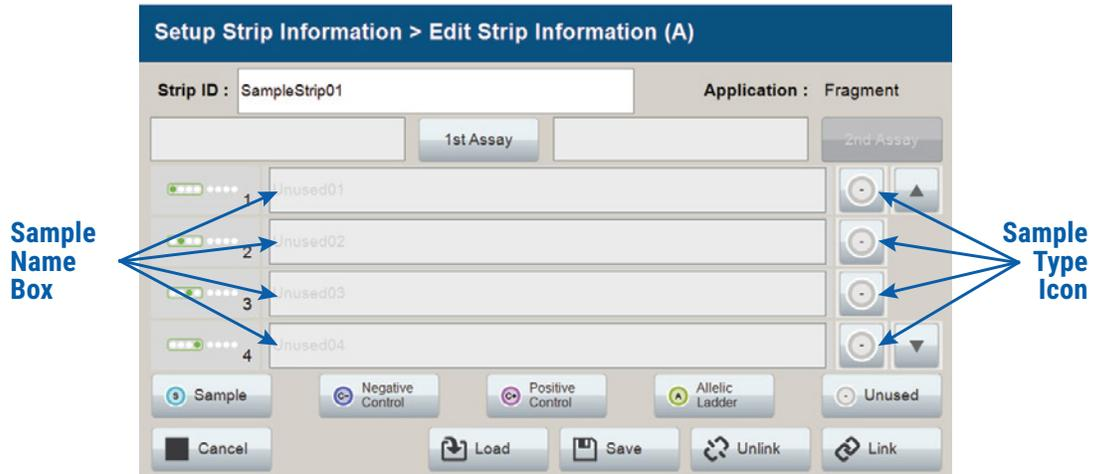
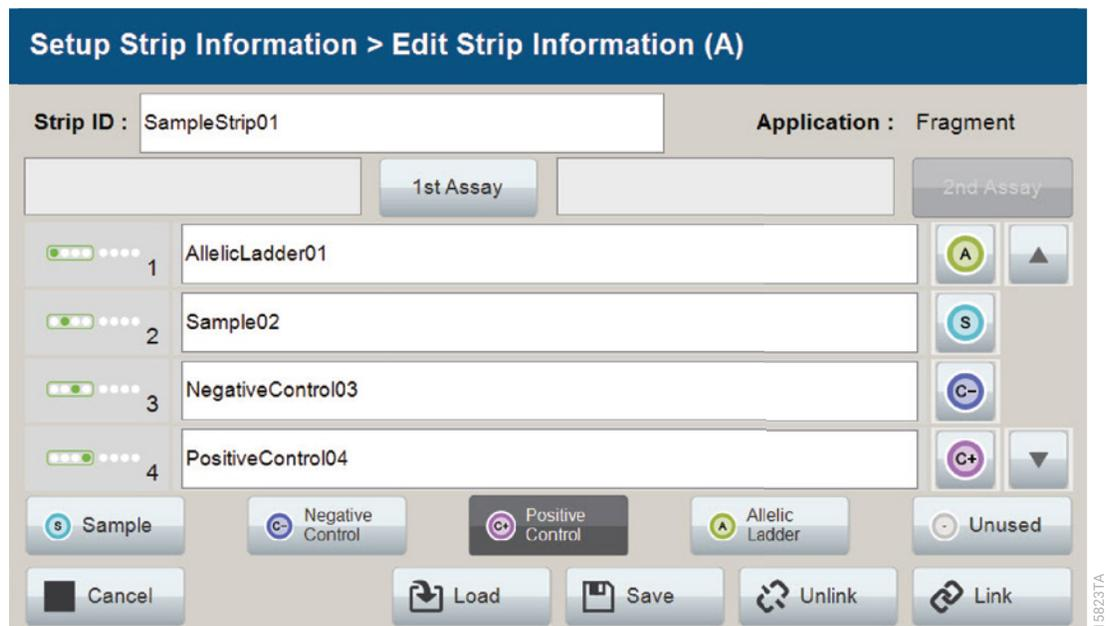
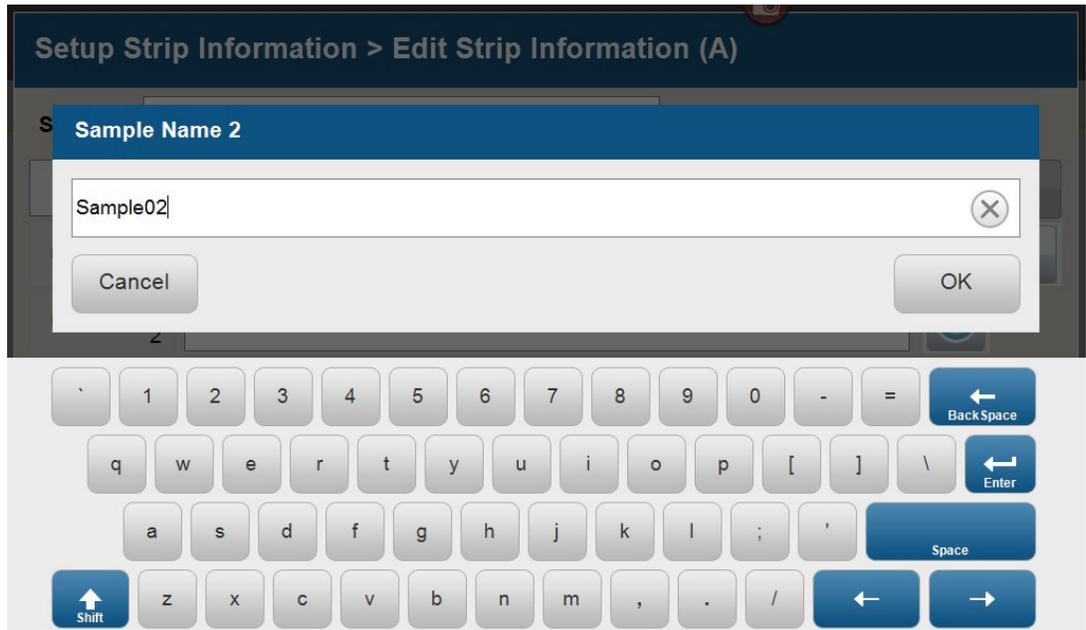
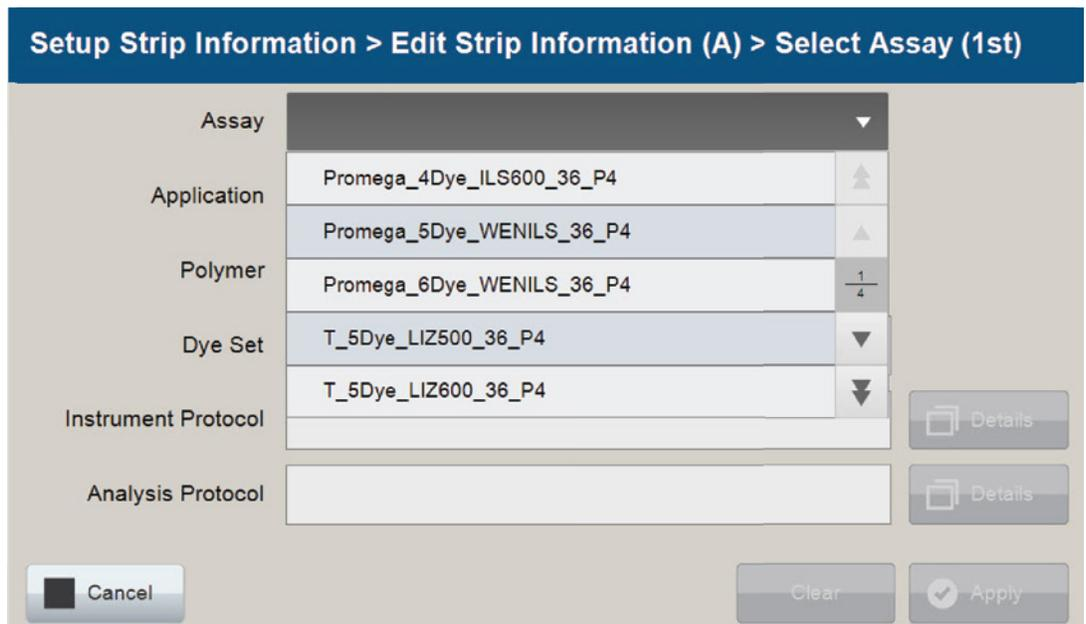

Figure 12. Sample Type and Sample Name on 'Edit Strip Information' screen.
Figure 13. Sample Name Entry on 'Edit Strip Information' screen.
Figure 14. 'Set Sample Name' window.
Figure 15. 'Select Assay' window.
4. Select a sample type on the 'Edit Strip Information' screen (Figure 12). Sample types must be selected for each well position before the **Sample Name** box becomes active for entry of sample name. Sample types are as follows.
5. To assign a sample type to a well, select the appropriate sample type along the bottom of the 'Edit Strip Information' screen (Figure 12), and then select the **Sample Type** icon to the right of the sample name field for the desired well. This icon will then display the sample type selected for that well (Figure 13).
6. Enter a sample name for each well position by selecting the **Sample Name** box adjacent to the well number on the 'Edit Strip Information' screen (Figure 13). This opens the 'Set Sample Name' window and a keypad will become active on the touch screen (Figure 14). Alternatively, the Sample Name can be entered using a traditional keyboard if one is connected to the Spectrum Compact CE System. Enter the appropriate sample name, and then select **OK** to exit and return to the 'Edit Strip Information' screen.
- The Spectrum Compact Control Software includes pre-loaded run assays for use with chemistries available from Promega. Refer to the *Spectrum Compact CE System Operating Manual* #TMD058 for information on creating or modifying assays. To assign a run assay to an injection set, select **1st Assay** on the right side of the '1st Assay' field (Figure 13). This opens the 'Select Assay' window (Figure 15). Select 'Promega_5Dye_WENILS_36_P4' from the drop-down list (Figure 15) and then select **Apply**.